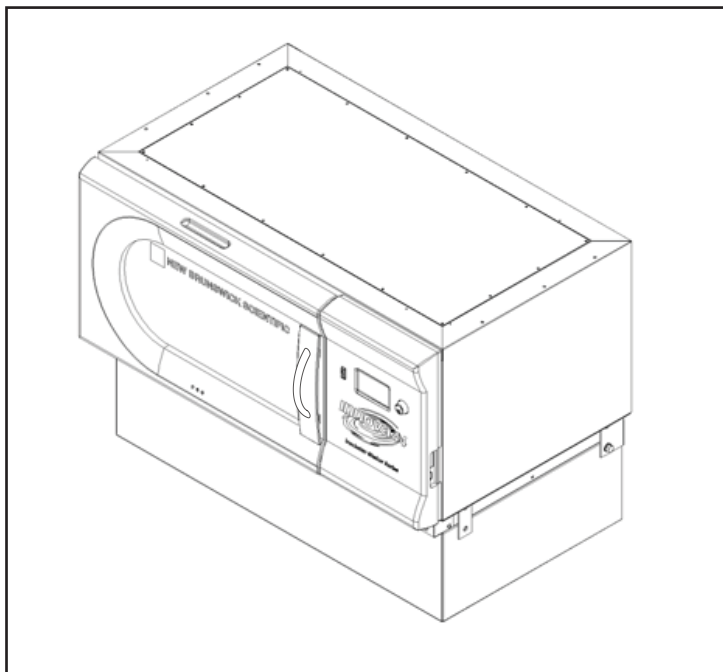

Fig. 6-4: Shaker Installed on Base
9. Tighten all screws equally. With the corner braces securely in place, the shaker mounted on its base will look as shown (see Fig. 6-4 on p. 26):